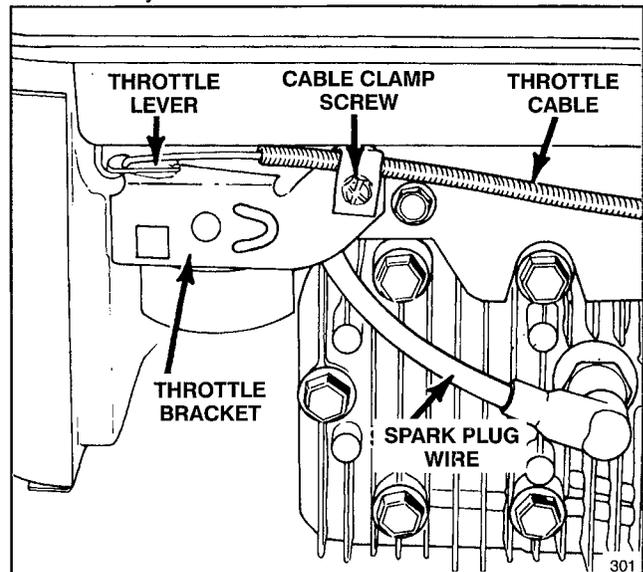
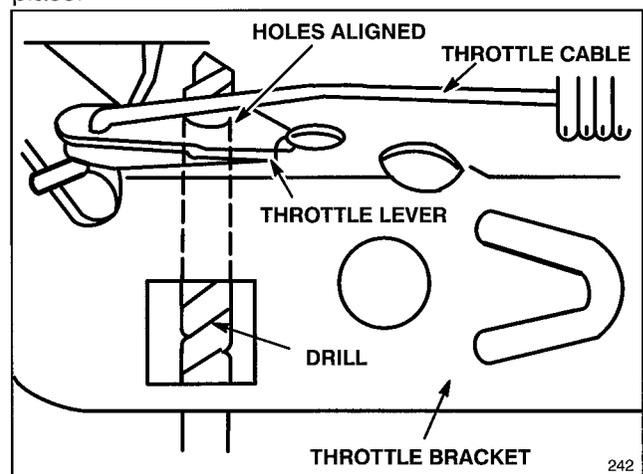

Figure 17
Figure 18
1. Stop engine and pull wire off spark plug (Fig. 17). Remove key from switch on electric start model.
3. Loosen cable clamp screw until throttle cable slides (Fig. 17). Align holes in throttle lever and throttle bracket using a 1/8" diameter drill (Fig. 18). Tighten cable clamp screw to lock adjustment in place.
1. Stop the engine. Pull the wire off the spark plug (Fig. 17). Remove key from switch on electric start model.